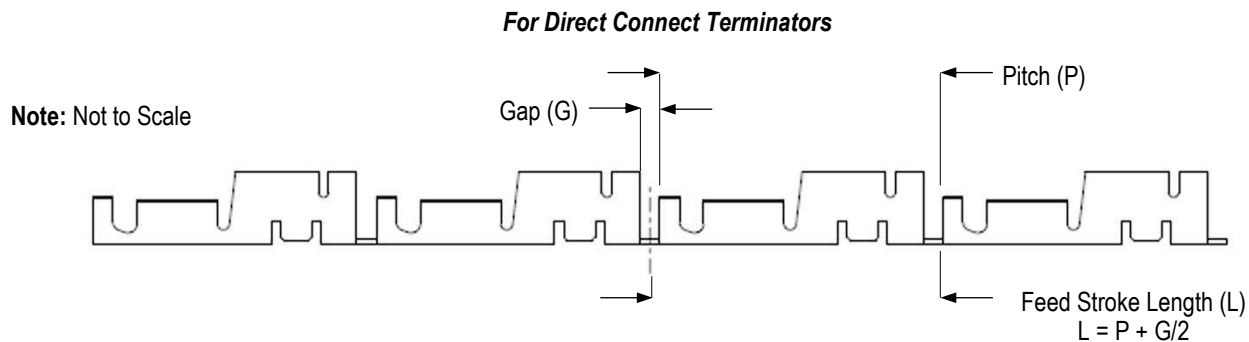

Figure 22
3. Turn the adjusting wheel to the appropriate "L" dimension for the terminal being processed. Refer to the customer drawing for the "L" dimension for AMPLIVAR terminals. If data is not available, set the "L" to the terminal pitch plus half of the gap between the terminals (see Figure 22).